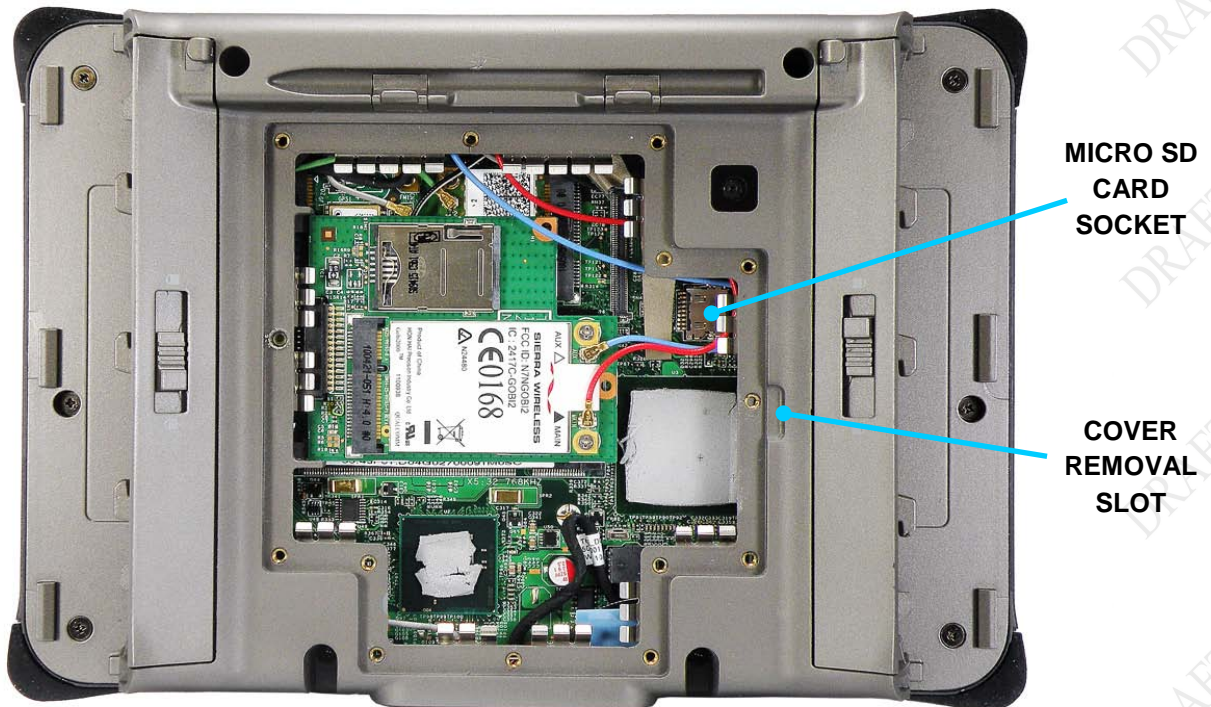

Figure 19. Micro SD Card Socket
The micro SD card socket is located inside the rear compartment, as shown in Figure 19. Follow the procedure in Table 4 to install the card.
4.	Carefully pry up the cooling register at the slot provided (Figure 19) and remove.